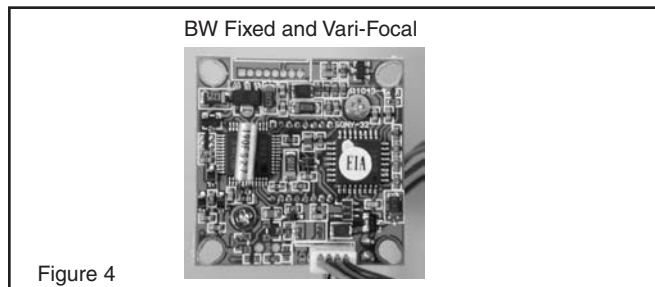

Figure 4
**FIXED AND FIXED VARI-FOCAL LENSES.** There are no user adjustable settings on these units (Figure 4).